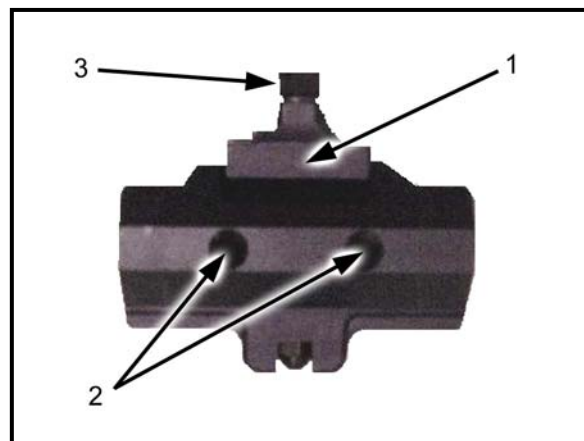
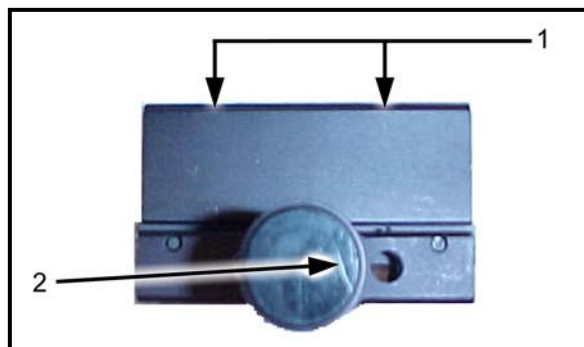

Figure 2-18. Insight rail grabber.
Figure 2-20. Picatinny rail grabber.
The Insight rail grabber (Figure 2-18) and the Picatinny rail grabber (Figure 2-20, page 2-14) were designed to mount accessories onto the M16A4 and M4-series weapons. Each rail grabber has proven its ability to retain zero when installed and tightened properly. Both rail grabbers attach accessories on the upper receiver and on all four sides of the RAS. Once zeroed the rail grabbers can be removed from the weapon and will retain zero as long as the rail grabber is not separated from the accessory and is remounted on the exact same notch it was zeroed on. If the accessory and rail grabber is reinstalled on a different notch, or the rail grabber is separated from the accessory, they must be rezeroed. A one-time retightening of the rail grabber and accessory is recommended after the first three rounds are fired to fully seat both. Details specific to each rail grabber are outlined in the following paragraphs.
a. **Insight Rail Grabber** (Figure 2-18). The Insight rail grabber is used to install the AN/PEQ-2A and AN/PAQ-4B/C. This rail grabber must fully rest on the RAS in order to retain zero. The locking clamp (1) must grasp the RAS, and the screw that tightens the rail grabber must be tightened with a field tool such as a multipurpose tool.
(1) Both of the holes (2) located in the top of the rail grabber can be used to mount accessories, but the hole closest to the muzzle must be used. This ensures the majority of the rail grabber is supporting the accessory being mounted to prevent damage to the accessory.
(2) The rail grabber can be mounted where the tightening screw (3) is on either the left or right side (when top mounted) or top or bottom (when left side mounted) so it does not interfere with the operation of the weapon.
(3) Unless command-directed, all devices in a unit do not have to be mounted in the same location as long as the individual users record or mark the mounting location on their weapon to avoid unnecessary rezeroing. (Some examples of marking techniques are paint markers and grease pencils.)
(4) Even if the rail grabber is resting entirely on the RAS, accessories should not make contact with the front sight assembly or the collar of the barrel. The vibrations that occur during firing will interfere with the rail grabber's and accessory's zero retention capabilities.
c. **Picatunny Rail Grabber** (Figure 2-20, page 2-14). The Picatunny rail grabber must fully rest on the RAS in order to retain zero. The locking clamp must grasp the RAS and the torque-limiting knob (1) that tightens the rail grabber must be hand tightened until it clicks two times.
(1) Both of the holes located in the top of the rail grabber (1) can be used to mount accessories, but the hole closest to the muzzle must be used. This ensures the majority of the rail grabber is supporting the accessory being mounted to prevent damage to the accessory. It also allows the torque-limiting knob (2) to be mounted on either the left or right side (when top mounted) or top or bottom (when side mounted) to ensure the torque-limiting knob does not interfere with the operation of the weapon.
(2) Unless command-directed, all devices in a unit do not have to be mounted in the same location as long as the individual users record or mark the mounting location on their weapon to avoid unnecessary zeroing. (Some examples of marking techniques are paint markers and grease pencils.)
(3) Even if the rail grabber is resting entirely on the RAS, accessories should not make contact with the front sight assembly or the collar of the barrel. The vibrations that occur during firing will interfere with the rail grabber's and accessory's zero retention capabilities.